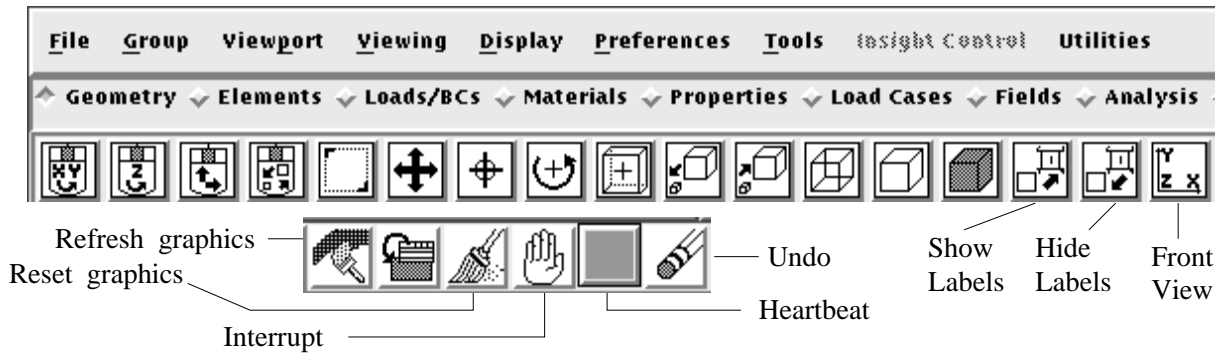

Figure 1: Main Form
The MSC/PATRAN **Main form** (Figure 1, also see Appendix A, page 3) should appear across the top of the screen.
- Choose ‘Modelling Window’ from this menu (2 pages). This shows the Main form and the Graphics viewport. Part of the Main form is shown in **Figure 1**.